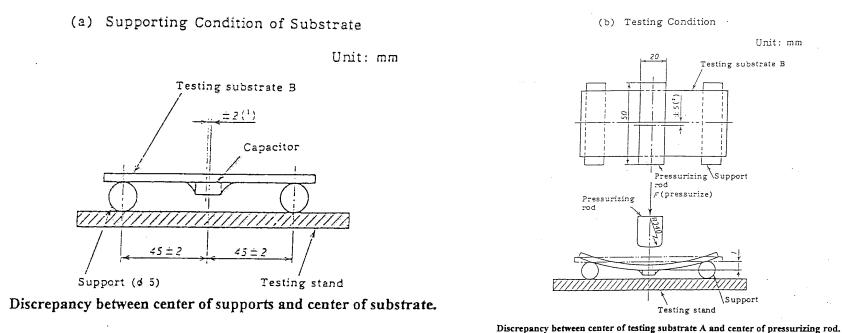

Fig.2 Flexural test of substrate
2.2 The substrate shall be so placed with its surface on which capacitor is mounted downwards that the center of capacitor coincides with the center of supports as illustrated in Fig2.